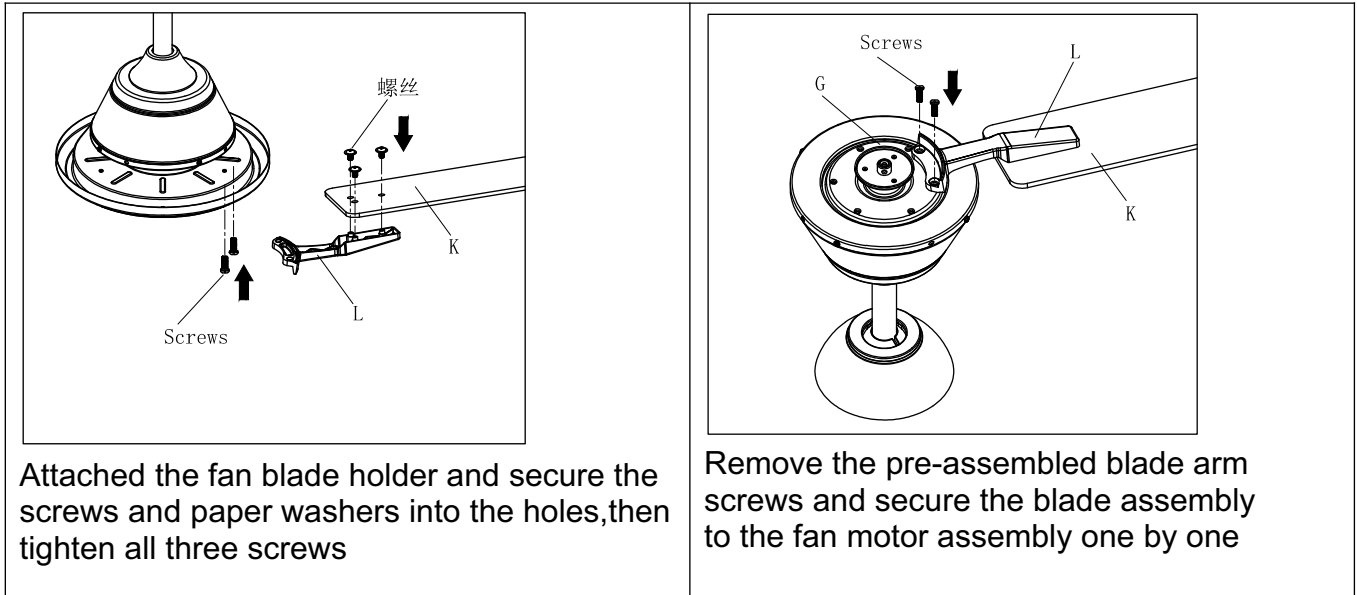

Fig. 7
2. Once completed, repeat the process on the remaining blades. **(Fig. 7)**